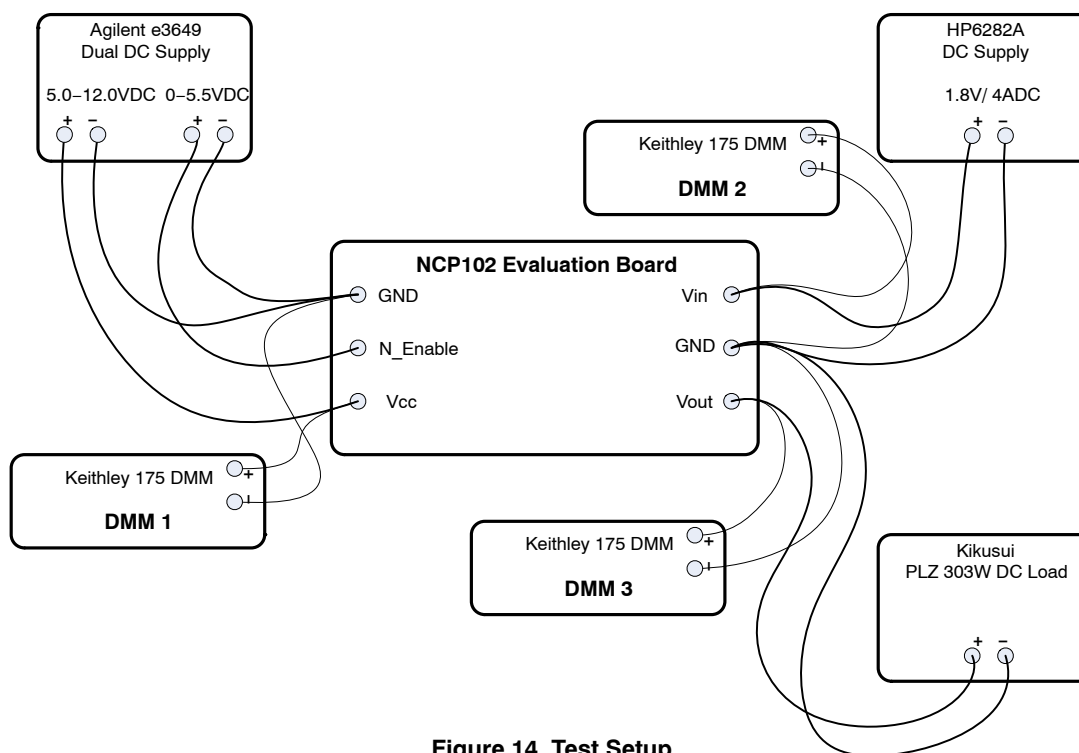

Figure 14. Test Setup
1. Connect the NCP102 Evaluation Board as shown in Figure 14.